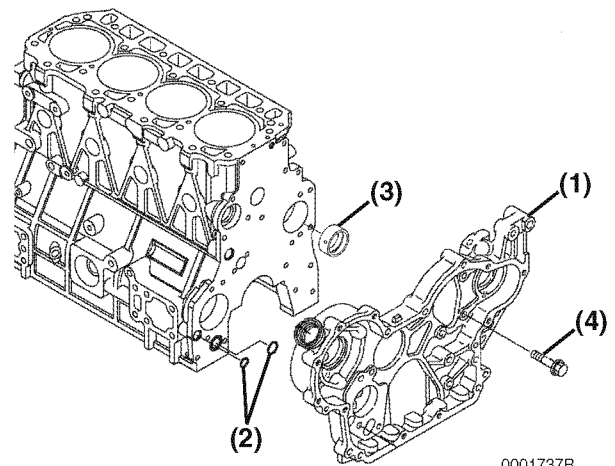
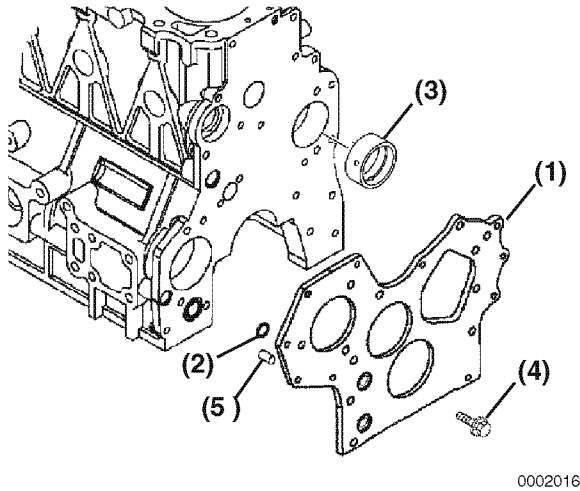

Figure 6-144
Figure 6-145
1. If removed, install a new camshaft bushing (**Figure 6-144, (3)**) using the appropriate service tool.
3. 4TNV94 - 4TNV106: Install two new O-rings (**Figure 6-144, (2)**) in the cylinder block.
4. TNV84 - TNV88: Reinstall the dowels (**Figure 6-145, (5)**) and a new O-ring (**Figure 6-145, (2)**).
5. Reinstall the gear case (**Figure 6-144, (1)**) or front plate (**Figure 6-145, (1)**). Tighten the bolts to the specified torque.